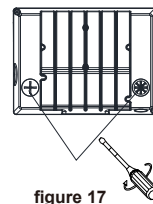

figure 17
2. After adjusting the required control function, tighten the metal plug and the plastic plug clockwise.(figure 17 )